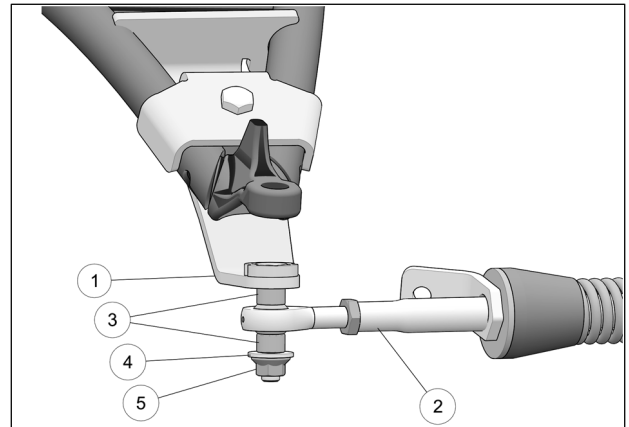

Fig. 13
- Attach the stabilizing rod (2) to the anchor bracket (1), using the two spacer bushings (3), flat washer (4) and nut (5). Torque to 70 N•m [52 lb•ft]. Refer to Fig. 13